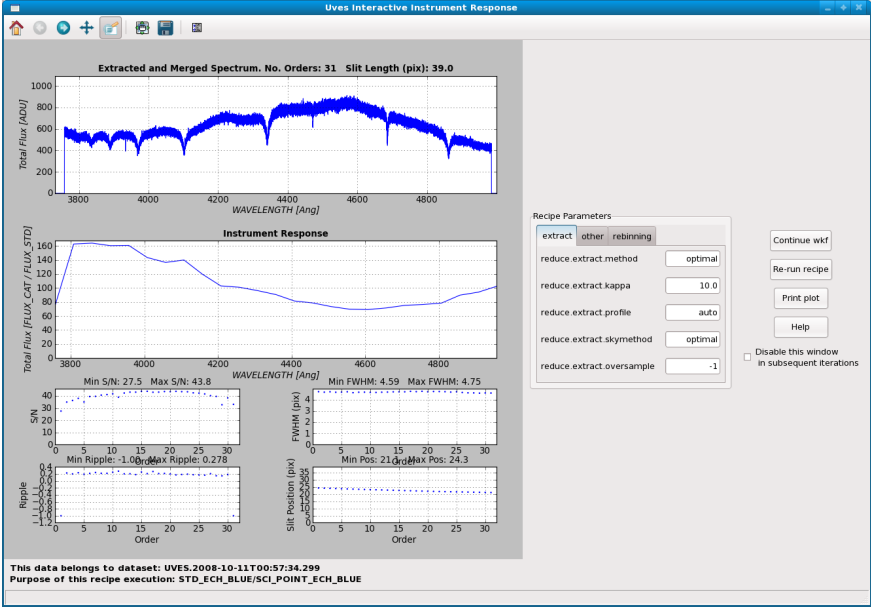

Figure 7.3: The interactive window for the Instrument Response actor.
14. **Instrument Response:** The standard DataSets supplied with Reflex 2.4 do not include standard star observations. Hence the `Instrument Response` actor will not be executed, and the corresponding interactive window will not appear. In Figure 7.3 we show what this interactive window looks like. The usage and purpose of the `Instrument Response` interactive window are the same as for the `Spectrum Extraction` interactive window which we describe in detail in the next few steps, and so no more information on this window is given here in the tutorial.